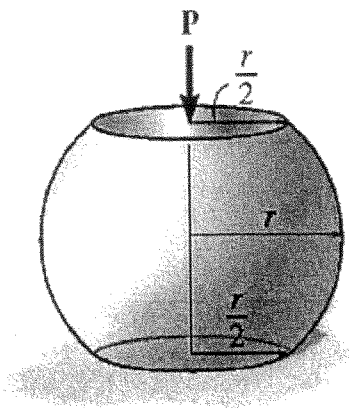

Fig. 1
1. As shown in Fig. 1, the ball is truncated at its ends and is used to support the bearing load P . If the modulus of elasticity for the material is E , determine the decrease in its height when the load is applied. (15%)